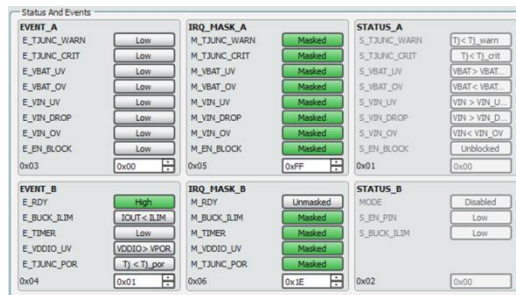

Figure 14: Status and Events shown in GUI
**Smartcanvas section 3:** This section of the GUI provides the user with “Status and Events” information and can be used to “Mask” events from generating nIRQ flags or events. Figure 14 shows all events are masked or ignored as a default setting.